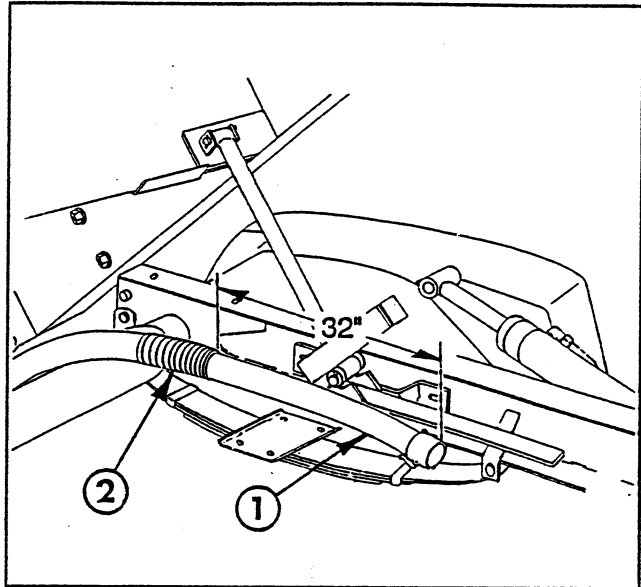

FIG. 17
76. Install the protective hose loom on the 100" pressure hose as shown in FIG. 17. Secure the loom to the hose by tightening a tie strap around each end of the loom so that the loom does not shift front to rear.